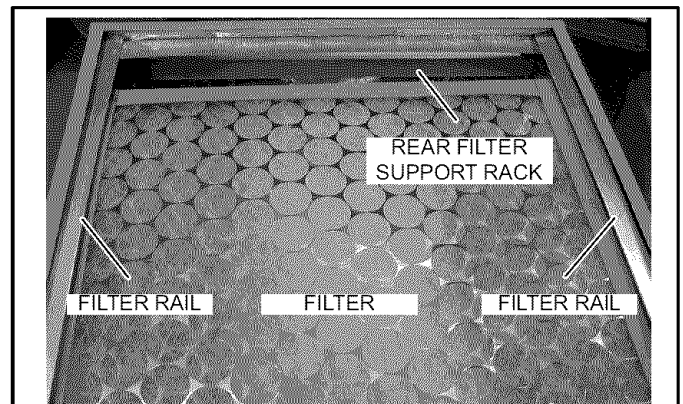

Figure 9. Filter Support Rack Installation
14. Install the appropriate rear filter support rack between the filter rails (see figure 9). Use 14-1/2" support rack for 16-1/4" cabinet and 19-1/2" rack for 21-1/4" cabinet. Slide the filter between the filter rails as shown.